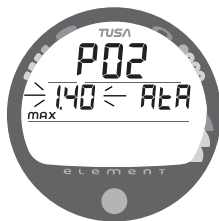

Fig. 22 - SET PO2 ALARM
- After having set and accepted the Time, the Set PO2 Alarm screen appears with the Set Point flashing (Fig. 22).